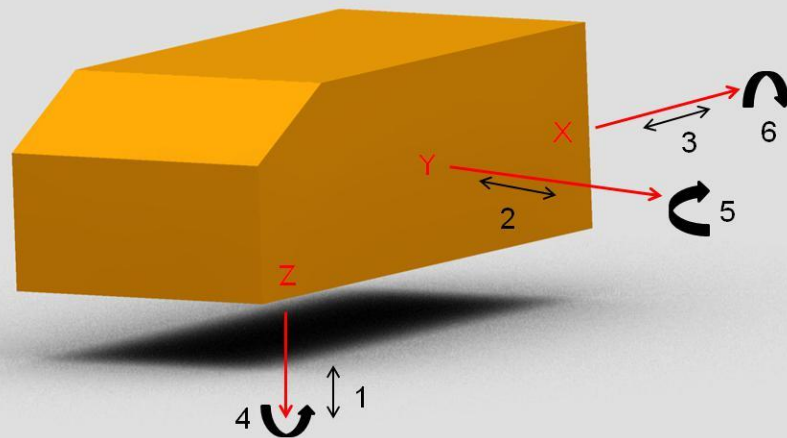

Figure 10
- **Tier:** Changes the analysis type. Options are 2D with 0DOF (2-dimensional with 0 degrees of freedom), 3D with 0DOF (3-dimensional with 0 degrees of freedom), 2D with 2DOF (2-dimensional with 2 degrees of freedom - heave and yaw) and 3D with 3DOF (3-dimensional with 3 degrees of freedom - heave, yaw and roll). For the definitions of previously mentioned degrees of freedom, please see (Fig. 10). Usually, 3D tiers give more accurate results with greater computational time. 2D tiers complete simulation faster than 3D, but the accuracy is lower. 0 DOF tiers give faster and accurate results for smaller wave heights. On the other hand, 2 and 3 DOF tiers give more realistic results for larger wave heights with longer computational time. *Picking 2 and 3 DOF tiers will cause the simulation to crash since these features haven't been implemented yet.*